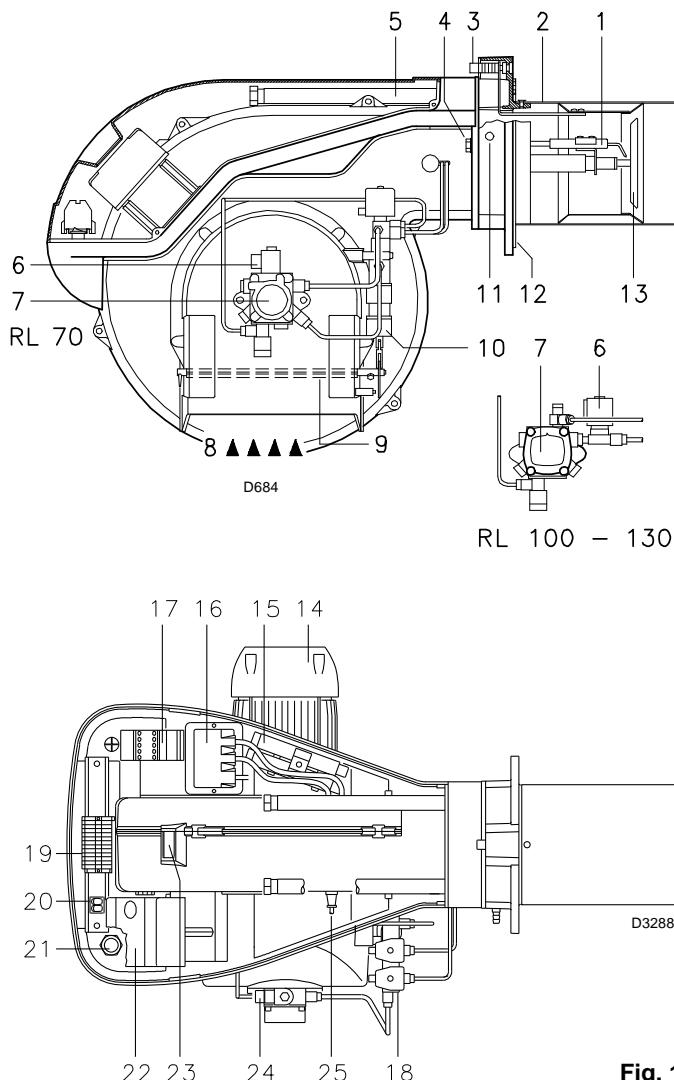

Fig. 1
## 4.2 Burner description (Fig. 1)
**Control box lock-out:** if the control box 22)(Fig. 1) pushbutton (red led) lights up, it indicates that the burner is in lock-out.
**Motor trip:** release by pressing the pushbutton on thermal cut-out 17)(Fig. 1).
- 2 - Extensions 15)(Fig. 1) for slide bars 5)(Fig. 1)